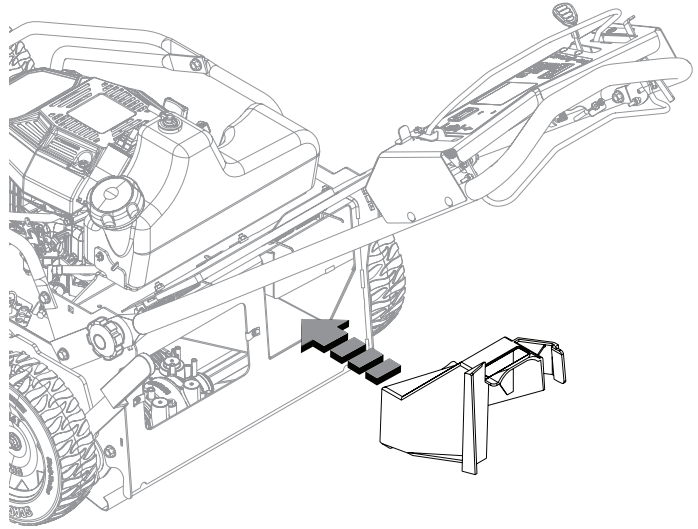

Figure 1-11. Reinstall the Rear Discharge Plug
10. Reinstall the rear discharge plug removed earlier. See Figure 1-11